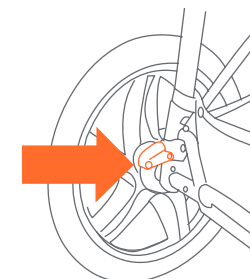

Fig. 11
- 11) • Locate the 2 rear brakes behind the stroller on the right and left of the axel (Fig. 11).